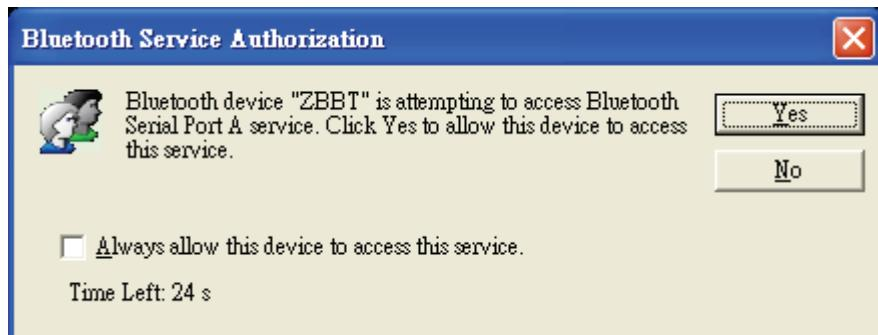

Fig 3
3. Enter the password for Bluetooth connection. Please see the Upload/Upload Device section for instructions on setting Bluetooth password. Click OK after you enter the password. Fig 3 appears.
4. Click Yes in Fig 3 to allow connection. A message appears as shown in Fig 4 notifying the COM port used.